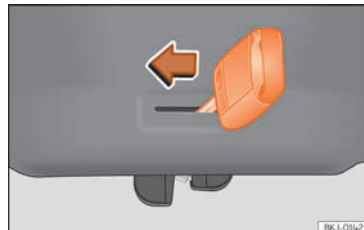

Fig. 95 Detail of the luggage compartment: emergency unlocking
- Insert the key blade into the slot and move the key in the direction of the arrow until the lock unlocks » Fig. 95.